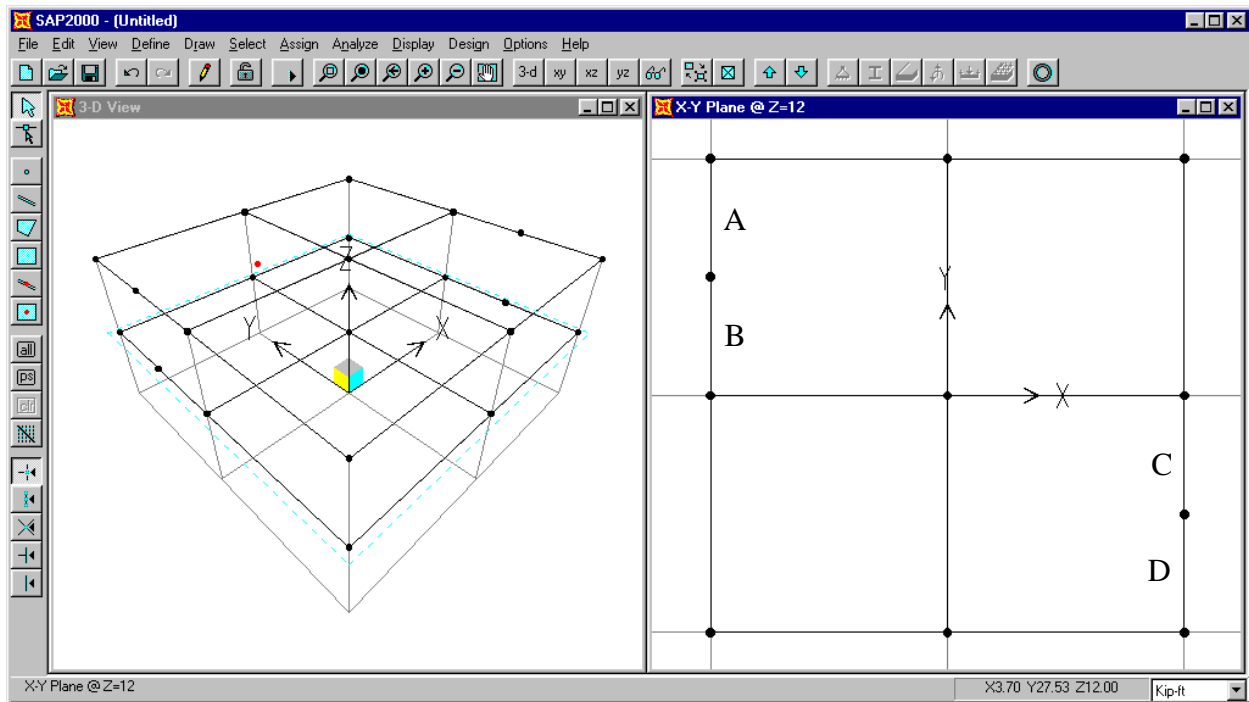

Figure C-12: Model After All Roof Level Beams Copied To Second Level
23. Click the **Down One Gridline** button  on the main toolbar to display the plan view at the second floor level, Z=12. Note the window title changes to X-Y Plane @ Z=12. The model now appears as shown in Figure C-12.
24. Click the second level beams labeled “A” and “B” in Figure C-12 to select them.
28. Click the second level beams labeled “C” and “D” in Figure C-12 to select them. From the **Edit** menu select **Join Frames** to combine these two elements into a single element.
Note: If you wanted to, at this point you could just click on point C in Figure C-12 to draw the second brace element. If we were to do that, the start point for the brace would be at the top (point B) and the bottom point would be at the bottom (point C). Though not necessarily a problem, this would be inconsistent with how we input the first brace. In this example we will opt for consistency.